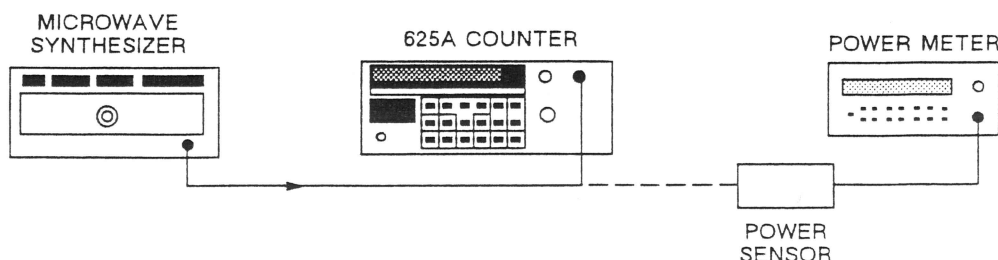

Figure 7-5. Band 3 YIG DAC Calibration Setup.
4. Set up the equipment as shown in Figure 7-5 and as described below.